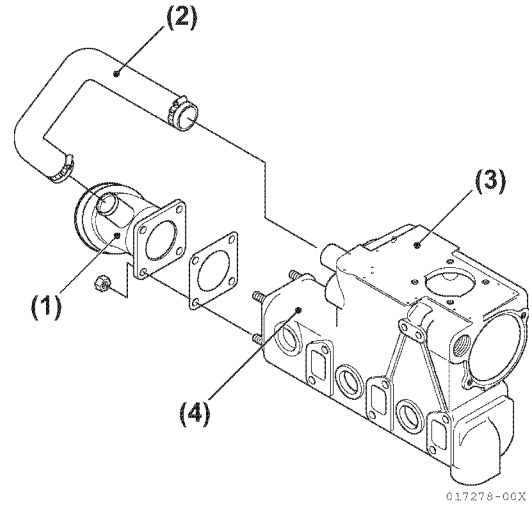
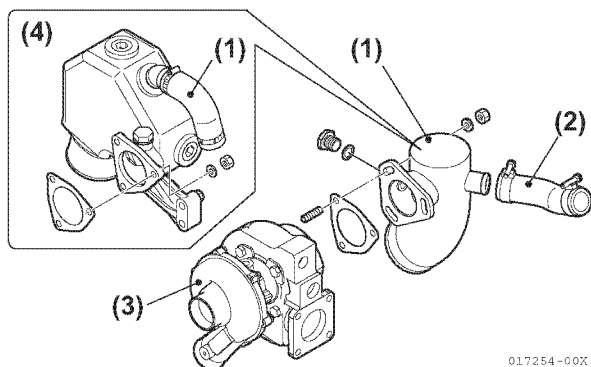

Figure 5-16
Figure 5-17
17. Remove the mixing elbow from the exhaust manifold for 3JH4E and 4JH4AE (**Figure 5-16**) or from the turbocharger for 4JH4-TE and 4JH4-HTE (**Figure 5-17**).